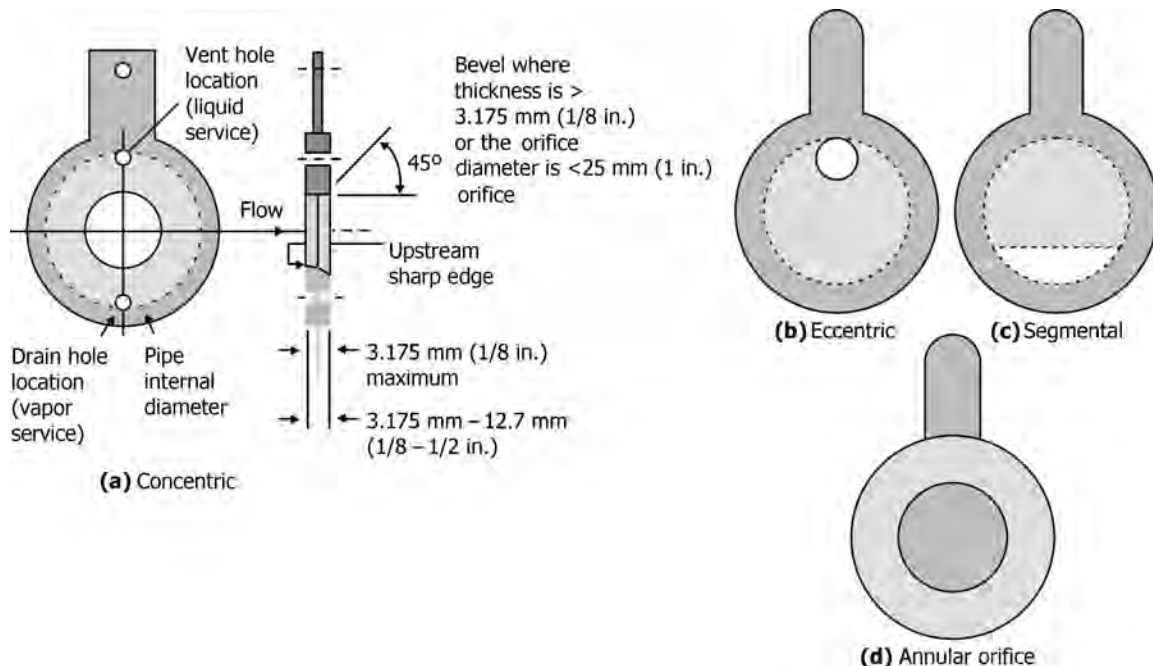

FIGURE 4.8 Different types of orifice plates.
- Figure 4.8 illustrates different types of orifice plates.